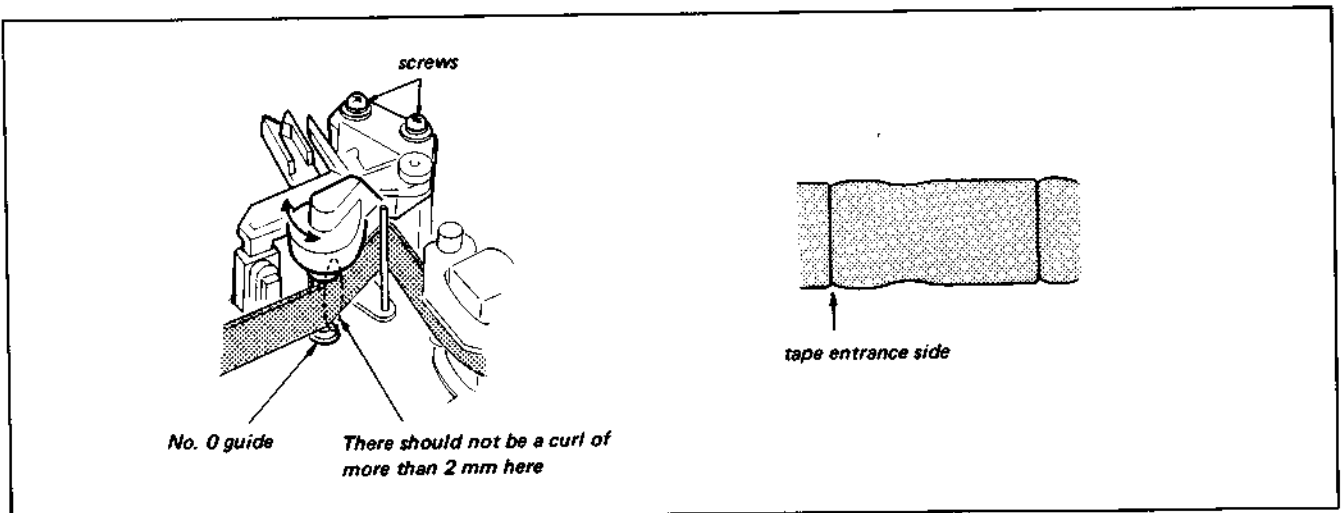

Fig. 3-24. No. 0 guide position adjustment
- (ii) Turn the TRACKING control knob so that the RF waveform is 2/3 of its maximum level. (See Fig. 3-24)
- (iii) Turn the No. 0 guide fully counterclockwise, then clockwise until the point where the RF waveform at the entry side becomes flat with minimal fluctuations. (See Fig. 3-24) Tighten the mounting screws at this point.